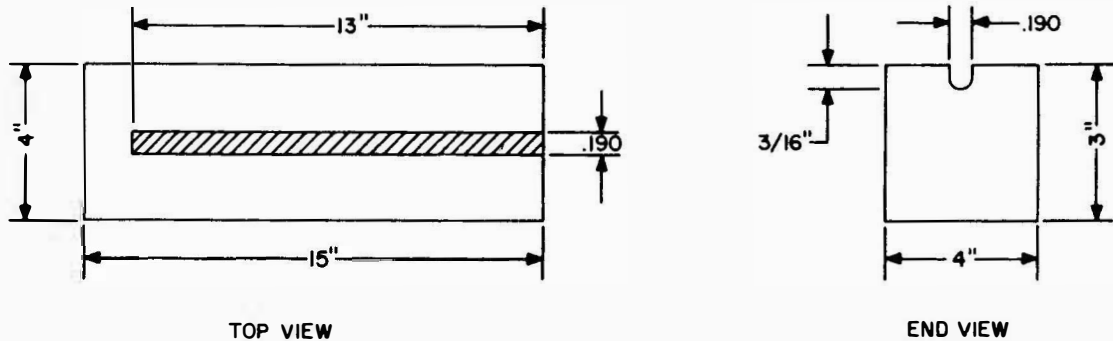

Figure 1. Stiletto Maintenance Jig
This article provides a drawing for a stiletto maintenance jig (figure 1) that can easily be fabricated out of aluminum stock by any machine shop and is utilized for straightening the stilettoes used in the SA-1070/SRA-34A(V) matrix for crosspoint patching. To use the jig: